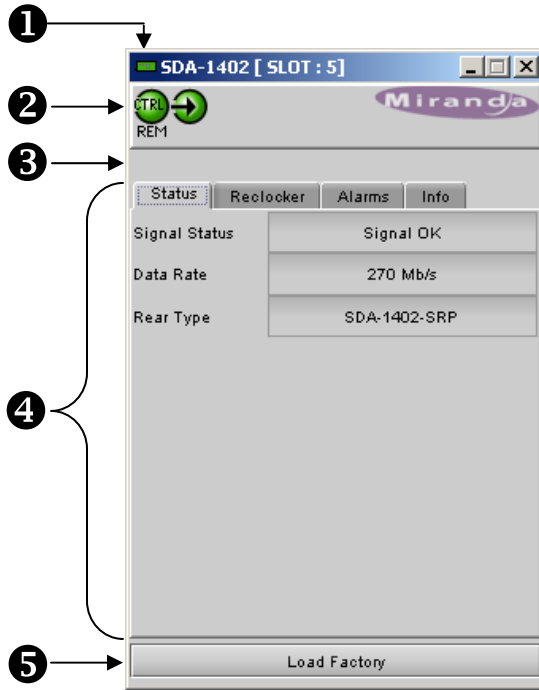

Figure 3.2 SDA-1402 iControl graphic interface window
The basic window structure for the SDA-1402 is shown in figure 3.2. The window identification line gives the card type (*SDA-1402*) and the slot number where the card installed in its Densité frame. On the left is a card status icon ❶ showing the overall alarm status. Its color in response to detected alarms is programmable; see section 3.4.5 on page 12.